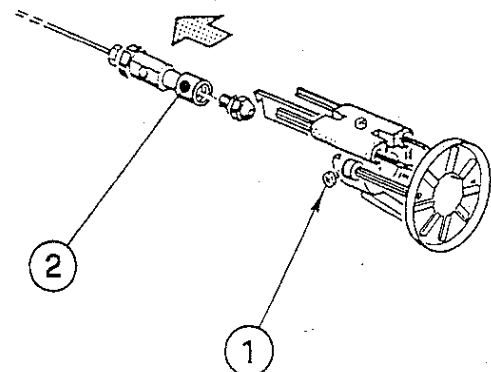
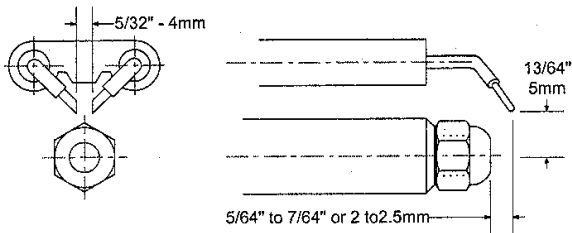

Figure 17: Riello Nozzle Replacement
Figure 18: Riello Electrode Setting
- b. **Nozzle Replacement**, refer to Figure 17.
- i. Remove the NOZZLE ADAPTER (2) from the DRAWER ASSEMBLY by loosening the SCREW (1).
- iv. Replace adapter, with nozzle installed, into drawer assembly and secure with screw (1).
- c. **Inspect and measure burner electrodes**. Refer to Figure 18 for the proper electrode settings.